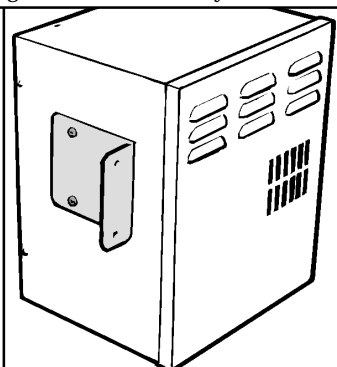

Figure 17 For box recessed in wall
7.1.2 If the fan box is to be recessed into the wall fit the brackets with the short legs 50mm from the air outlet face of the fan box (see figure 17).